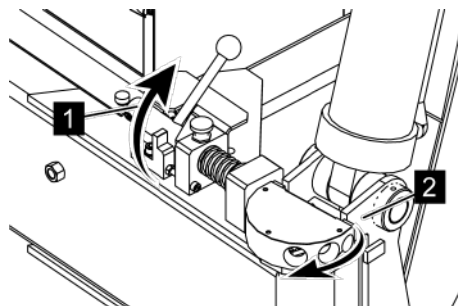

Fig. 84: Loosening the latching
2. ➔ Put the latching bolt (Fig. 84/1) into the position shown (Fig. 84) so that the outrigger (Fig. 84/2) swivels freely.